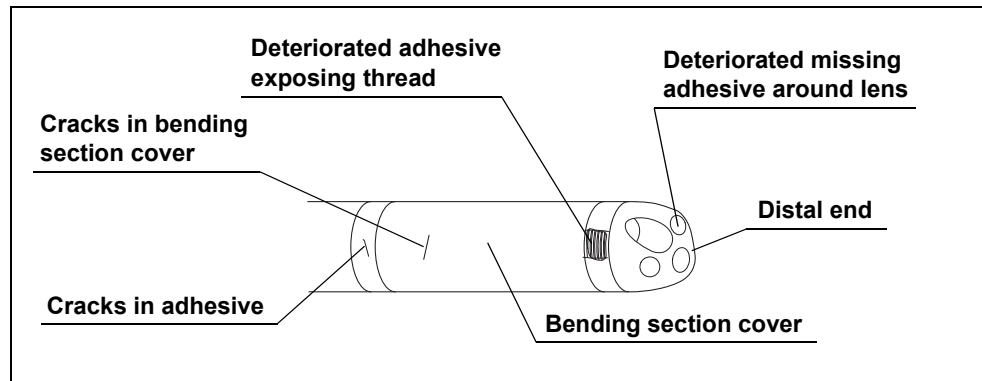

Figure 3.4
- Cracked, peeled or discolored adhesives at either end of the bending section and at objective lens and light guide lens shown as Figure 3.4.
- Olympus has verified no degradation happens when the listed number of disinfection or sterilization cycle is performed. When this endoscope is disinfected or sterilized more than the following times, the degradation shown in Figure 3.4 may occur. If such degradations happens, maintenance is required. For more details, contact Olympus.
- Cracks, deterioration or peeling may occur in bending section shown as Figure 3.4, insertion section or universal cord.